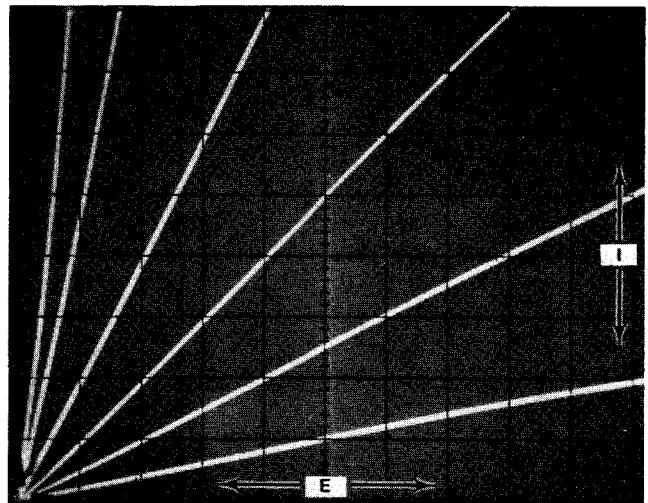

Fig. 5. Change in slope of resistance, VERTICAL SENSITIVITY or HORIZ VOLTS/DIV change.
8. Turn the VARIABLE COLLECTOR % control clockwise until a diagonal trace appears on the graticule, as shown in Fig. 5. Note that the trace intensifies when the Collector sweep level is turned up from the zero position. This feature helps to keep the intensity at the correct level, helping to prevent burning the CRT phosphor when the collector sweep is turned down or disabled. The amount of intensity change (D1) is controlled by the BRIGHTNESS control. The D2 Display Unit has a fixed amount of change.